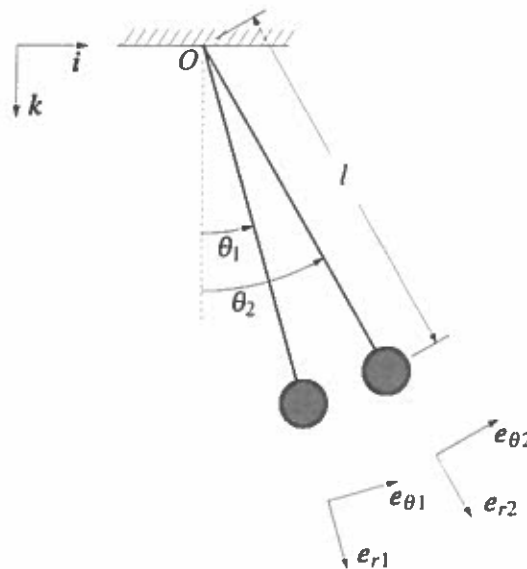

Figure 4.1 Pendulum system.
4. A pendulum system consists of two separate pendulums, each with a mass m suspended from a massless rod of length l , as shown in Figure 4.1. The masses m are free to swing in a vertical plane by an angle θ_1 and θ_2 respectively, under the influence of gravity and a torsional spring (not shown in Figure 4.1) connected between the two pendulums. The torsional spring exerts a moment between the two pendulums, about an axis perpendicular to the page, given by the torsional stiffness k times the angle between the two pendulums.